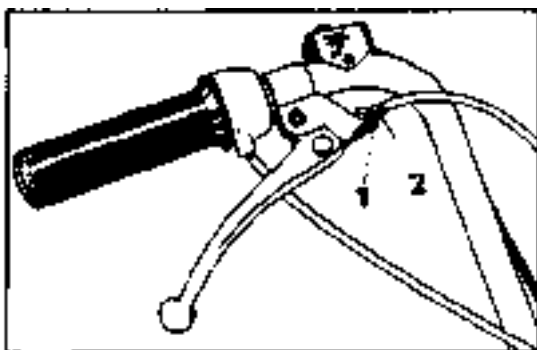
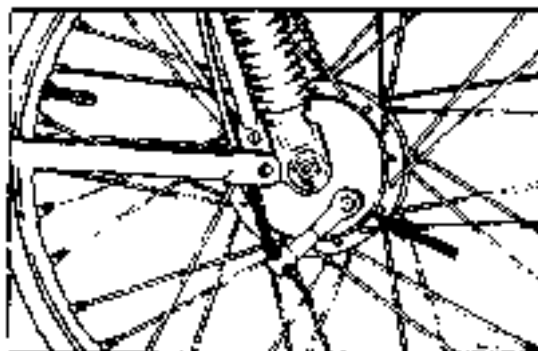

Fig.16 - Front brake adjustment
Fig. 17 - Front brake adjustment
A screw is provided on the handlebars (Fig.16) for adjusting the front brake. First loosen the knurled nut (1) of the brake by loosening or tightening screw (2) so that when pressed (pulled) toward the grip there is a clearance of 20 to 30 mm between the lever and the grip. Then retighten nut (1). When the brake lever can no longer be adjusted by means of set screw (2) adjust the required clearance by means of the brake toggle (Fig.17).